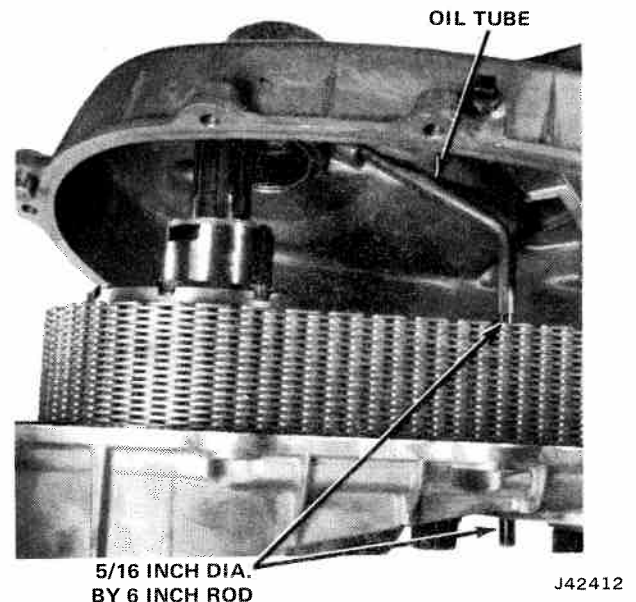

Fig. 8-59 Aligning Oil Tube for Case Installation to Cover Assembly
(9) If not equipped with reduction unit, install drive sleeve and hub onto drive sprocket. Be sure snap ring seats completely.
(10) If equipped with reduction unit, be sure oil baffle is in position, then install pinion cage and snap ring.
(11) Tip case cover assembly to position as shown. Insert front output shaft, output shaft thrust washer and front case gasket.
(12) Insert oil tube into case bore at front output shaft bearing boss. Insert a 6-inch length of 5/16-inch drill rod into tube. Rod will be used as pilot to align tube with case cover (fig. 8-59).